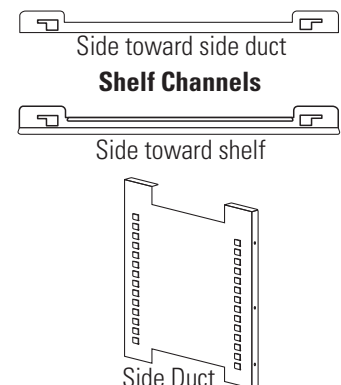

Figure 1-10. Shelf Channels and Side Duct
1. Install the side ducts with the tabs facing into the center of the chamber with their slots up. There are no right side or left side ducts, simply rotate one of them to fit the opposite side. Tilt the side ducts as they are placed in the chamber so the tops fit into the top air duct, then guide them into the vertical position. Figure 1-10 shows the duct as it would be oriented for the right side of the chamber.
2. Referring to Figure 1-10, note that there is no difference between left and right side shelf channels.